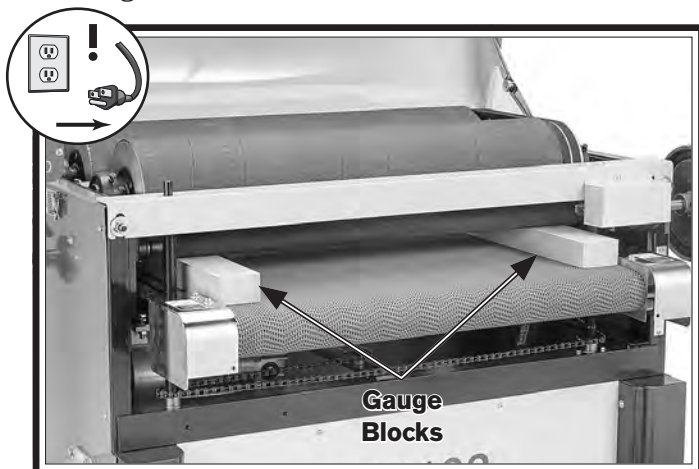

Figure 45. Gauge block positioning.
2. With gauge blocks in place at front of conveyor, position blocks so they are under front and center pressure rollers as shown in Figure 45.